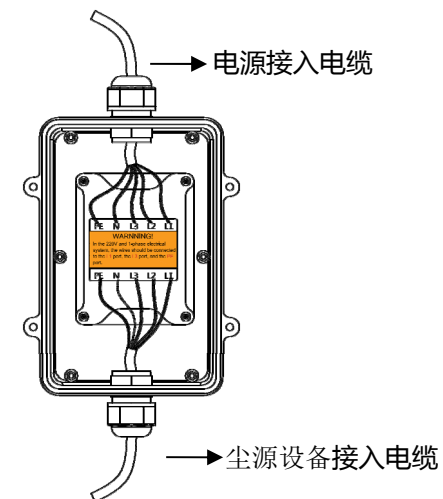

图 4
2) Connect the synchronized control between the dust source equipment as shown in Fig. 4. The electrical phase wires should be connected to the L1, L2 and L3 ports. The grounding wire should be connected to the PE port and the neutral wire should be connected to the N Port.
- 2) 按图 4 的接线示意图，将联动器接至总电源和尘源设备之间。相线接 L1、L2、L3 端口，地线接 PE 端口，零线接 N 端口。